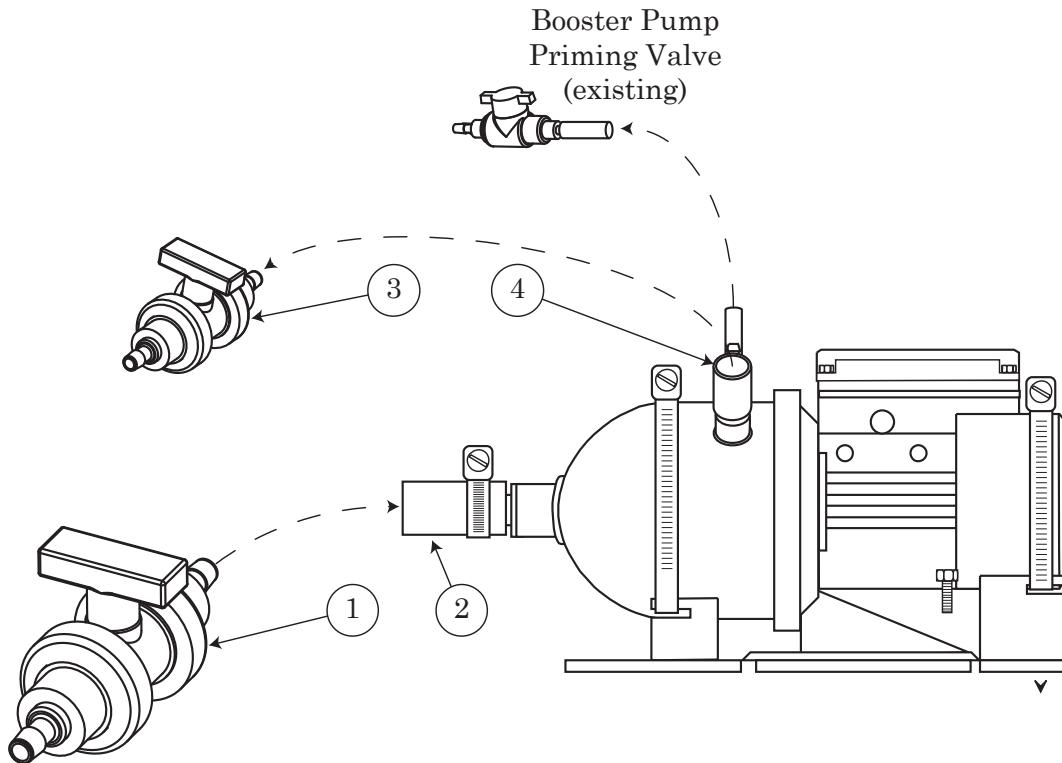

Figure 4. Booster Pump Isolation Valve Installation
(Figure 4 except as indicated)
- b. The 1" ball valve assembly (Figure 4, 1) P/N 7450-G504 in the upgrade kit is to be mounted in the 1" inline booster pump inlet hose (2). Cut the hose section so that the cut ends can be attached to the hose barbs on the valve, about 12 inches from the inlet flange.
- d. Repeat steps a through c to install the 1/2" ball valve (3) P/N 7450-G506 in the inline booster pump outlet hose (4), using hose clamps P/N 7476-03.